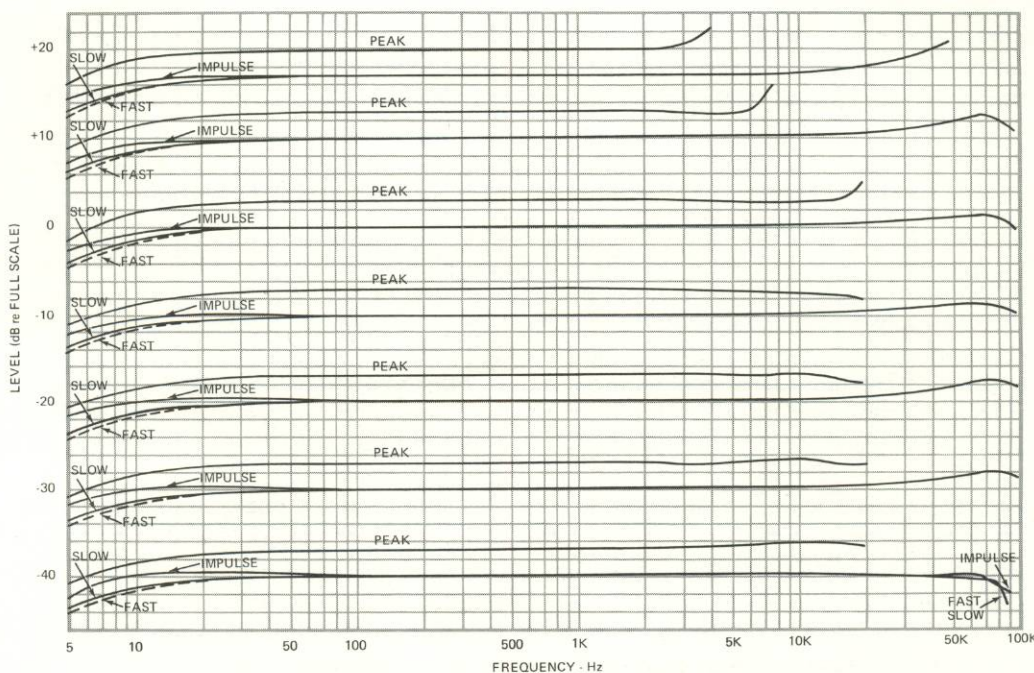

Figure 2.4. Comparative frequency responses of PEAK, IMPULSE, FAST and SLOW measurement modes of the 1933. Readings all taken at METER OUT (DC) jack.
Figure 2.4 shows the sine wave frequency response of the 1933 measured at the Meter Out (DC) jack at six different levels on the 110 dB range. The response is plotted for all four meter detector characteristics; FAST, SLOW, IMPULSE and PEAK and includes the low frequency coupling effect of the 1962 microphone.